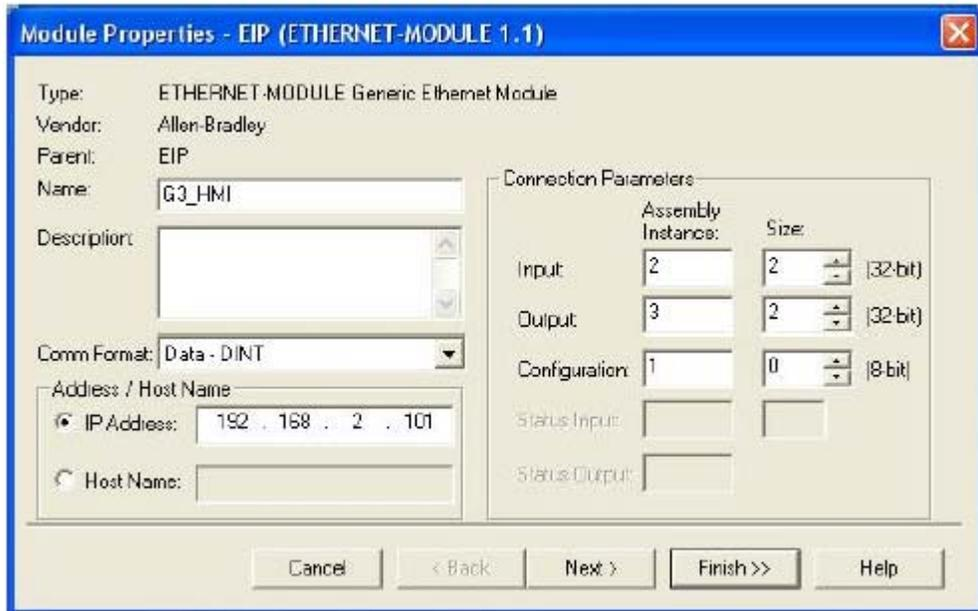

FIG. 73. Ethernet Module Properties
- d. Click OK. This will open the Module Properties window. See FIG. 73.
- e. In the Name field, enter a descriptive name to identify the module. See FIG. 73.
1. **Ethernet Settings.** Set the IP Address to 192.168.2.101. This should match the Address/Host Name entered in FIG. 73.